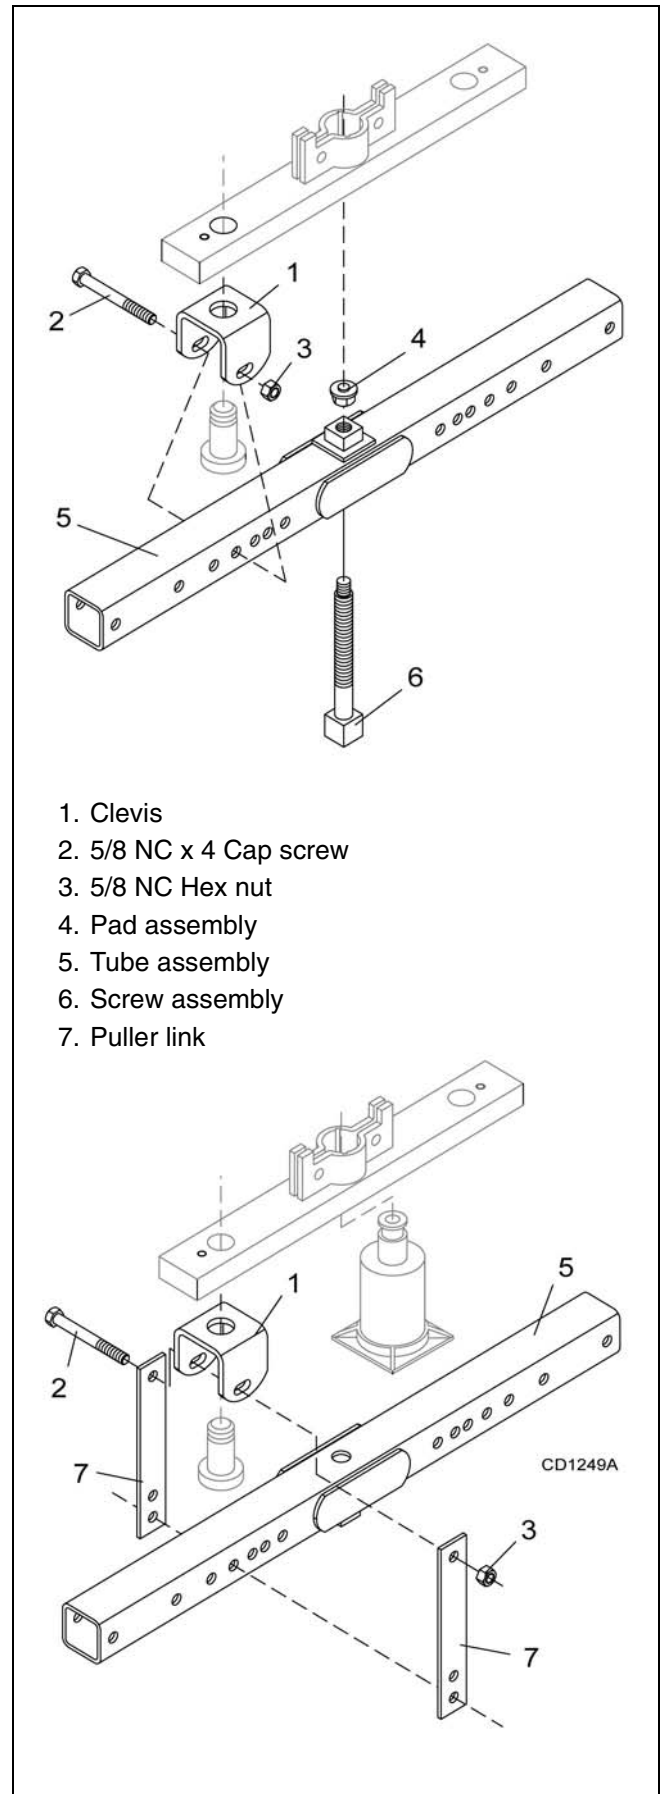

Figure 21. Crossbar Removal
NOTE: You will need to use either the puller screw (Item 6, Figure 21) or a small hydraulic jack to remove the crossbar.
3. Remove cotter pin, castle nut, and washer from bottom of crossbar, Figure 21.
4. Attach a clevis (1) to each end of crossbar, using blade pins, spacers, keyhole plates, and blade pin clips.
5. Position tube assembly (5) with threaded nut toward crossbar for puller screw removal or down for hydraulic jack removal.
6. For removal with puller screw, attach tube (5) to each clevis with bolts (2) and nuts (3). Place pad (4) in nut and thread puller screw (6) into nut from bottom. Tighten until pad is solid against gearbox shaft. For best results, strike head of puller screw with a hammer while tightening with a wrench.
7. For removal with a jack, attach tube to each clevis with puller links (7), bolts (2), and nuts (3). Place jack on tube with end of jack pressing against gearbox shaft. Slowly apply force with jack.